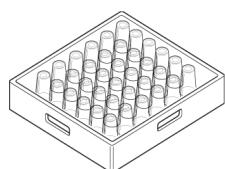

Fig.35
- 2- Load glasses and bowls in upside down position. (Fig.35)